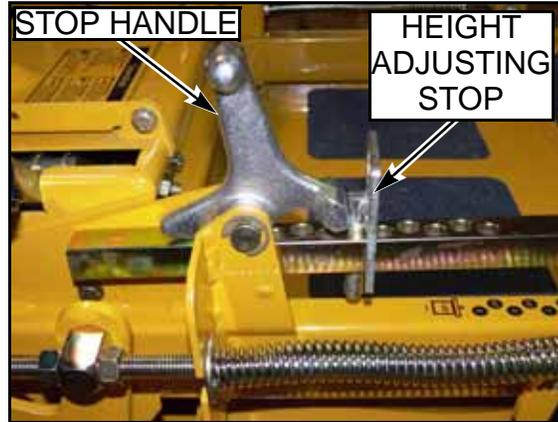

FIG. 32
4. Set cutting height at 3-1/2" in the height indicator by placing the height adjusting stop in the 3-1/2" hole, and turning the height stop so that the pin side is against the stop handle FIG. 32
5. Clamp the height adjusting stop against the stop handle FIG. 32. This will assure that the height will not move during the setting process. Otherwise, spring pressure from the deck lift springs will tend to pull the stop away from the handle.